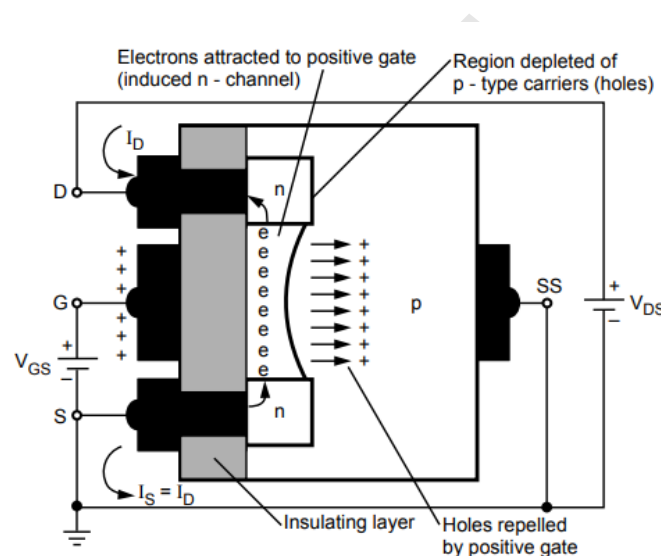

Figure 2.12: Channel formation in the NEMOSFET
- The positive potential at the gate will pressure the holes in the p-substrate along the edge of  $\text{SiO}_2$  layer to leave the area and enter deeper regions of the p-substrate, as in Figure 2.12.